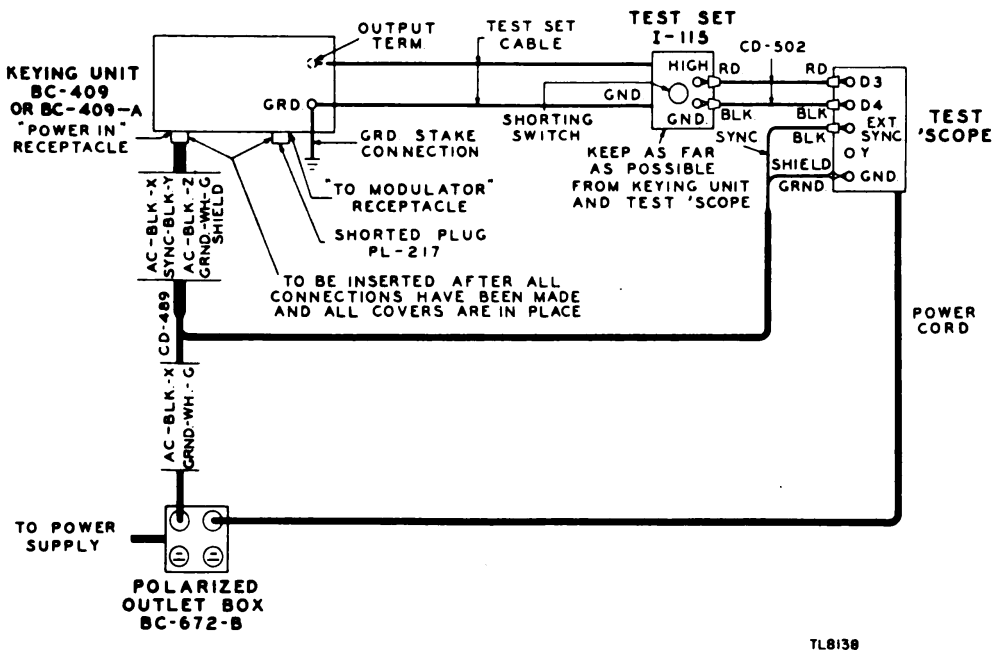

Figure 21. Test Set I-115, connections.
**b. Locating and Connecting.** The test connections for using Test Set I-115 are shown in figure 21. The test set cable is connected to the output and ground terminals of the keying unit. Cord CD-502 then connects the output terminals of the test set to terminals D3 and D4 of the test oscilloscope. For additional personal protection, locate Test Set I-115 as far away from the keying unit and the test oscilloscope as possible. If the shorting switch should be operated while the high voltage is on, there would be approximately 3,000 volts on the test set output terminals. If capacitor 1 should become shorted the same condition would occur.